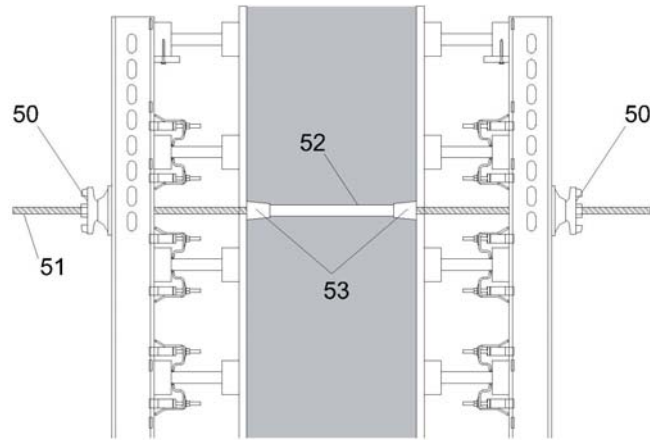

Fig. B8.01
1. Screw on Wingnut Pivot Plate DW 15 (50) to tie rod and insert pre-mounted tie rod (51) from the outside through the primary formwork.
2. Push spacer tube (52) with cone (53) onto the DW 15 tie rod (51).
4. Push DW 15 tie rod (51) through the closing formwork and screw on Wingnut Pivot Plate DW 15 (50) and tighten. (Fig. B8.01)